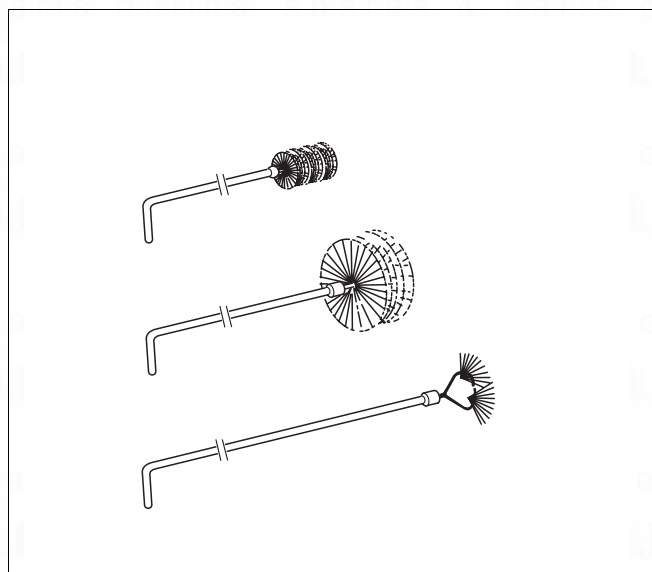
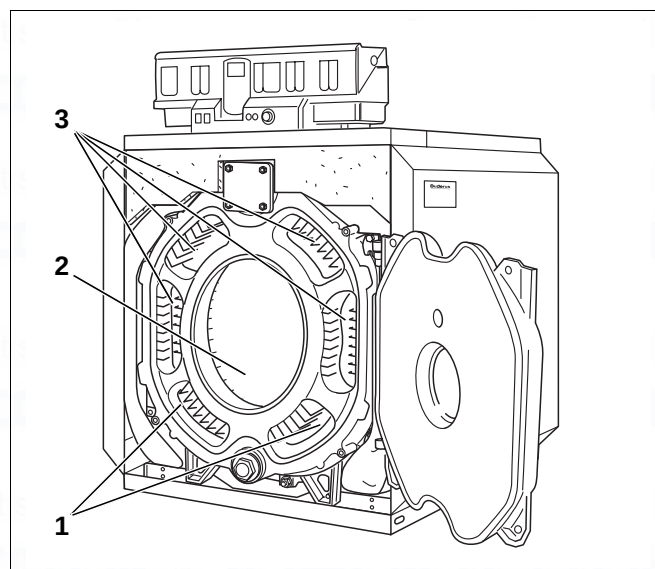

Fig. 53 Cleaning brushes
Fig. 54 Cleaning the hot gas flues
The various brush types available from Buderus (optional extras) are shown in Fig. 53.
- ▶ Clean the hot gas flues (Fig. 54, [1] and [3]) with cleaning brushes 1 and 2 (Fig. 53) starting at the front and working towards the back.
- ▶ Clean the rest of the combustion chamber (Fig. 54, [2]) with cleaning brush 2.
- ▶ Clean the bottom hot gas flues from the front with cleaning brush 2 (Fig. 54, [1]).